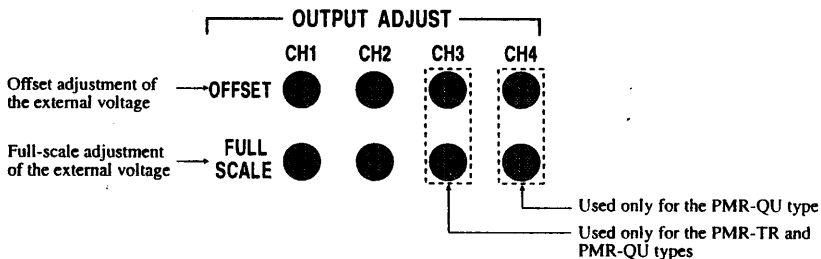

Fig. 4-5 Settings on the OUTPUT ADJUST variable resistor
3. Set the arrow on the OUTPUT ADJUST variable resistor corresponding to the output to be controlled externally, to the middle position for both OFFSET and FULLSCALE. (Fig. 4-5)
4. Set arrows on the OUTPUT ADJUST variable resistors CH3 and CH4 to the middle position for both OFFSET and FULLSCALE. See Fig. 4-5.